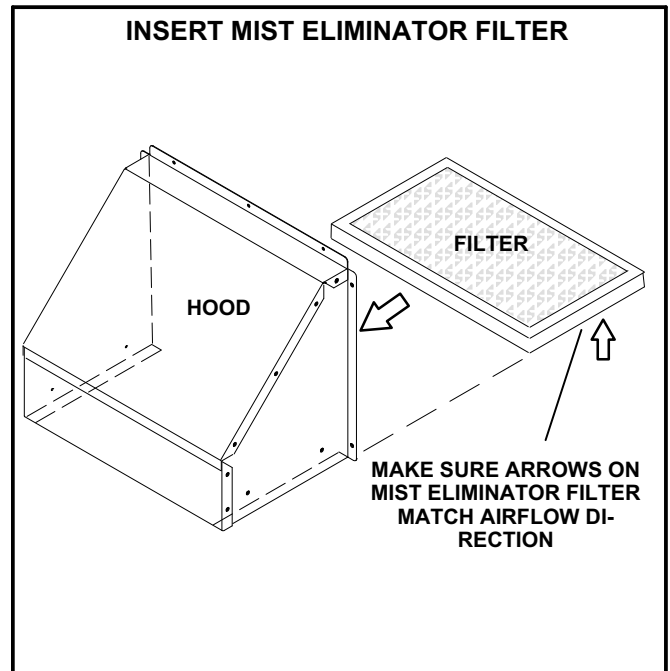

FIGURE 16
- 2- Install mist eliminator filter as shown in figure 16. Make sure arrows on filter match airflow.